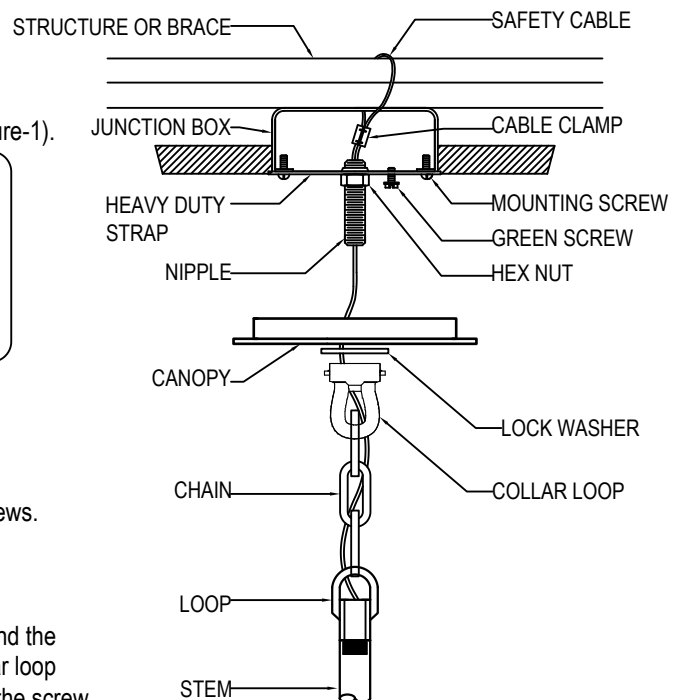

FIGURE-1
1. Attach the **SAFETY CABLE** to the building structure or brace (See figure-1).